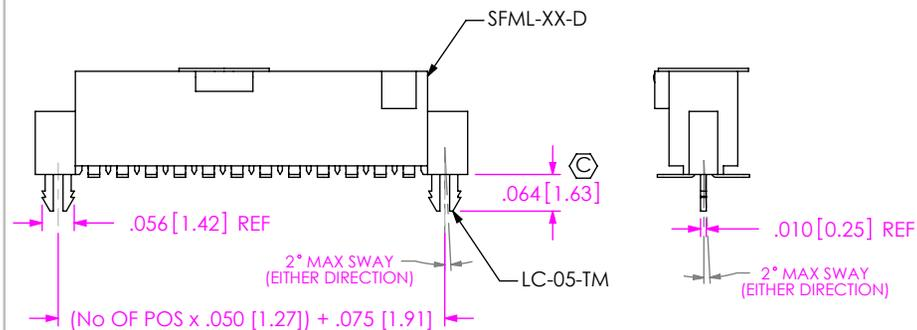

FIG 7
- LC: LOCKING CLIP (SEE FIG 7, SHT 3) (USE (2) LC-05-TM & SFML-XX-D) (SEE NOTE 9)